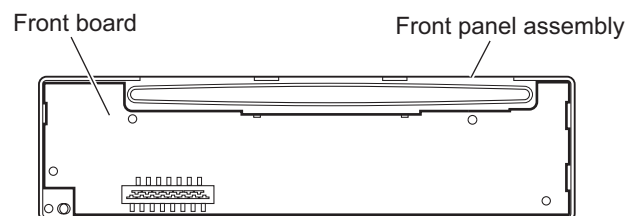

Fig.10
- (3) Take out the front board from the front panel assembly. (See Fig.10.)
3.2.5 Removing the clumper assembly (See Figs.10 and 11)